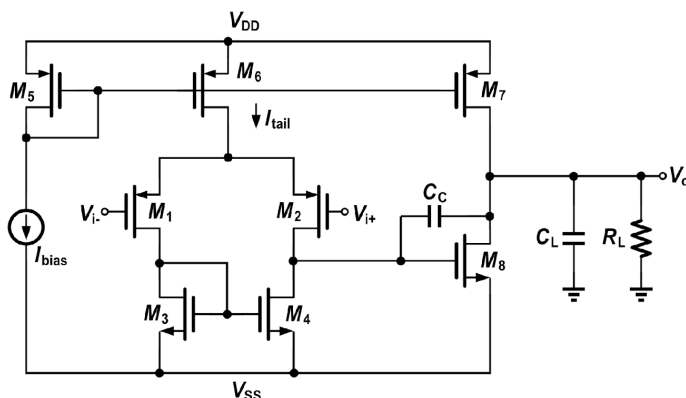

Figure 1: PMOS Two-Stage Miller Opamp
2. Design the operational amplifier of Figure 1 to obtain the following specifications: